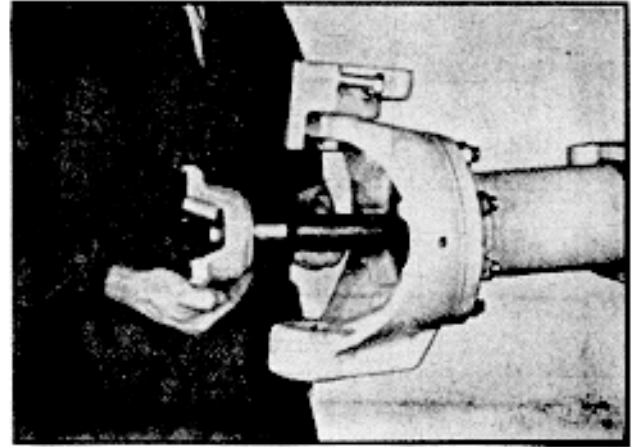

Fig. 24
1. Perform only step E above and then pull the axle shaft and universal joint from the axle housing. (See fig. 24.)
8. Apply lubricant to the inner drive yoke hub area. Insert the proper inner drive yoke shaft assembly through the suspension yoke. (See fig. 24). CAUTION MUST BE TAKEN TO AVOID DAMAGING THE INNER DRIVE YOKE SEAL ASSEMBLY. Rotate the inner drive yoke shaft assembly until it engages the side gears on the differential assembly, continue to slide the shaft inward until it engages the seal assembly. Care should be exercised to prevent damage to the primary seal lip and to insure the drive yoke hub is seated in the bronze bearing portion of the seal without distorting the large rubber diaphragm section of the floating seal.